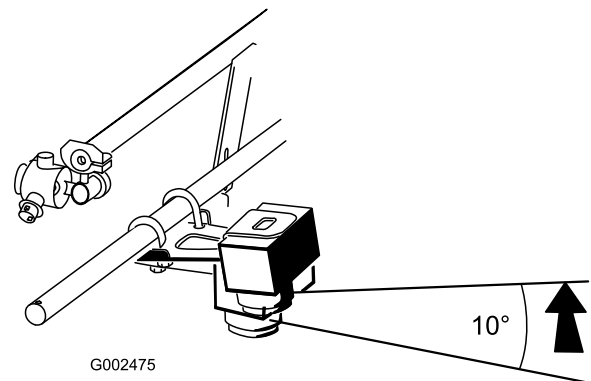

Figure 6
5. Rotate the sensor up so that it is approximately 10 degrees off parallel with the ground, then tighten the locknuts on the U-bolts to secure the sensor (Figure 6).